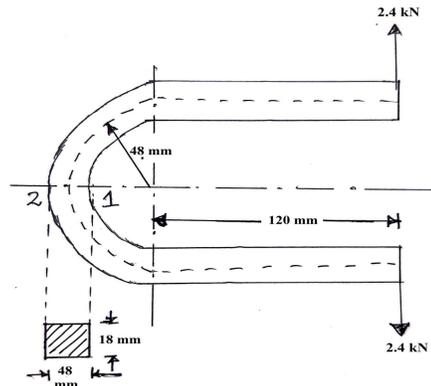

Figure.3
16. Find the resultant stresses at a point 1 and 2 for the frame subjected to a load of 2.4 kN as shown in figure.3. Also locate the position of neutral axis. 16 CO5 [K₃]